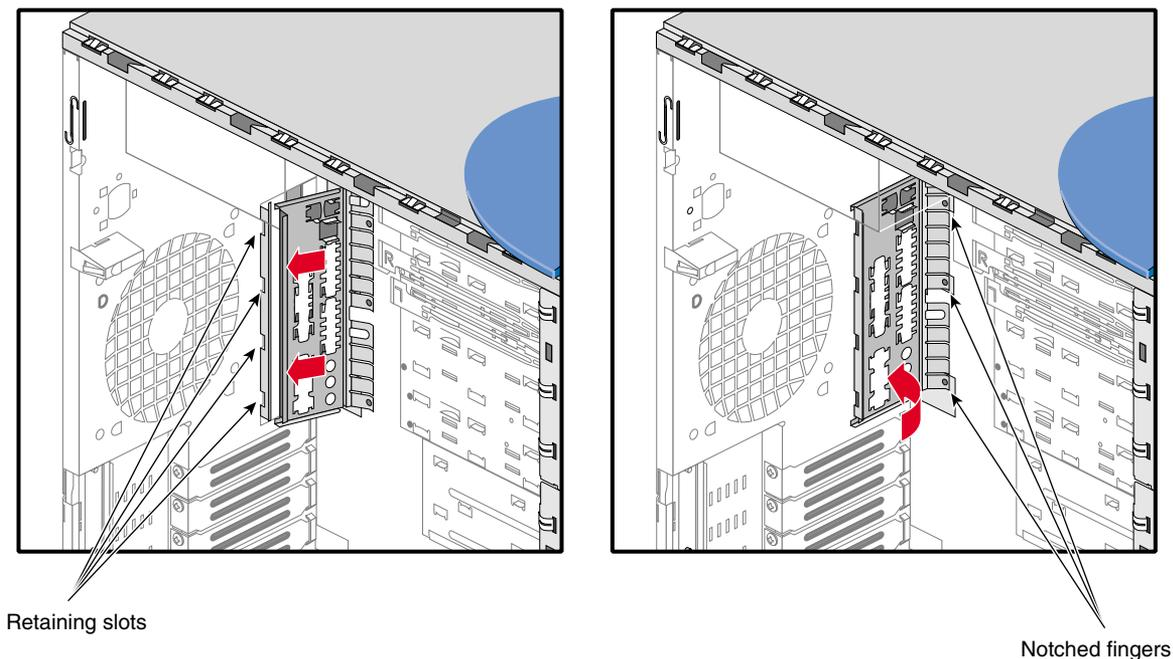

Figure 2-27 Installing I/O Panel Gasket
2. Locate the four retaining slots on the system's I/O panel opening. See Figure 2-27 for the location of the retaining slots.
3. Insert the I/O gasket's four indentations into their corresponding retaining slots on the I/O panel opening. See Figure 2-27 for an illustration of the procedure.